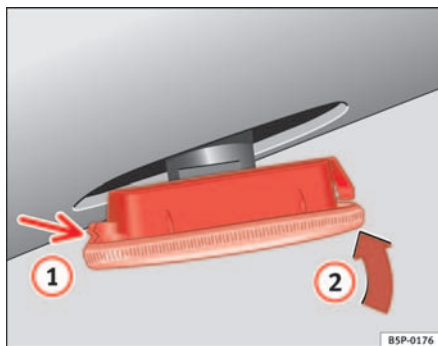

Fig. 165 Side turn indicator
- First place the indicator in the opening in the bodywork, fixing the tabs ⇒ fig. 165, arrow ①.
- Insert the lamp as shown by the arrow ② ⇒ fig. 165. ■